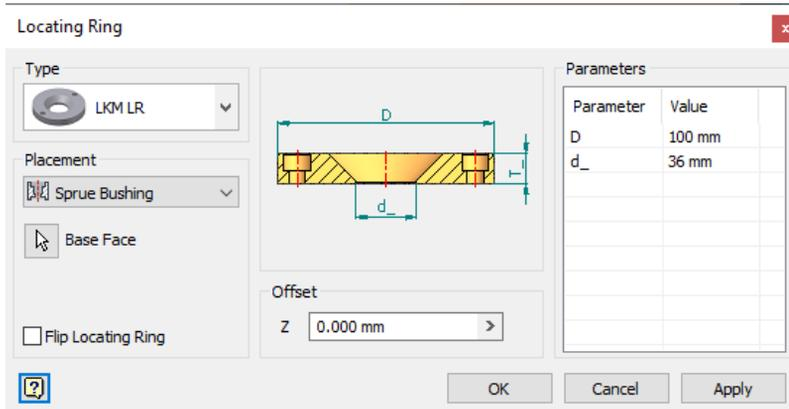

Figure 19-68 The Locating Ring dialog box
- Choose the **Locating Ring** tool from the **Mold Assembly** panel in the **Mold Assembly** tab of the **Ribbon**; the **Locating Ring** dialog box is displayed, as shown in Figure 19-68.